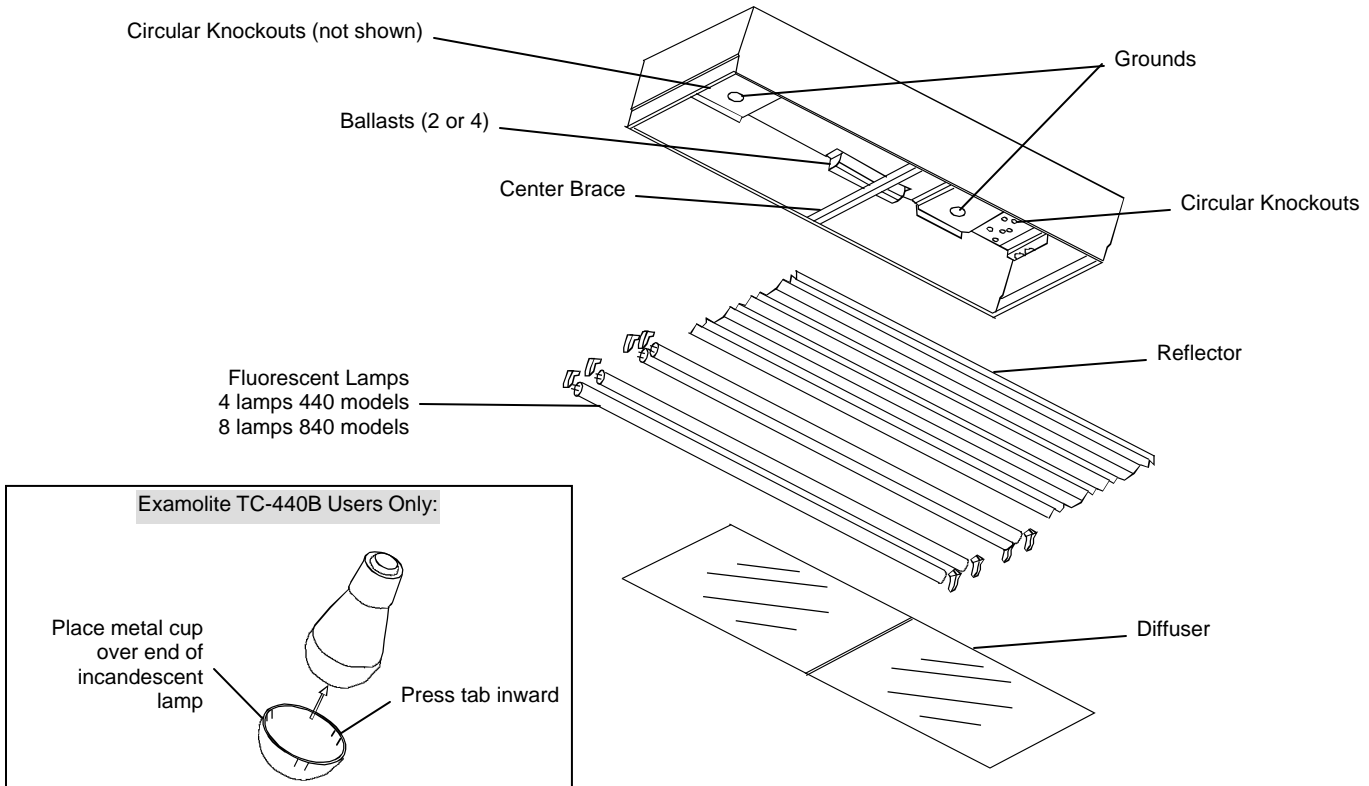

Figure 1. Luminaire Components
12. *Examolite TC-440B users only:* Place a metal cup over one of the the four incandescent lamps. Press the three tabs of the metal cup inward to secure it to the lamp. See Figure 1. Repeat this step for the remaining three incandescent lamps.